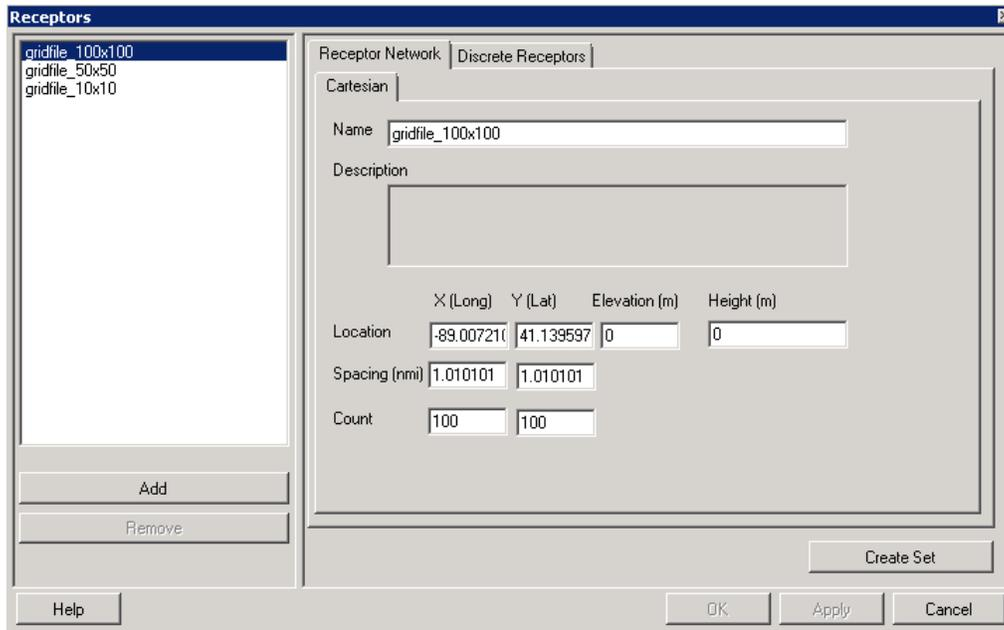

Figure 5-22 Receptors Dialog Box – Receptor Network Tab
1. From the menu bar select *Setup, Receptors* to open the *Receptors* dialog box (Figure 5-22).
- A receptor network is a grid of receptors, See Figure 5-22. The user defines the grid size and location by filling in the following fields: